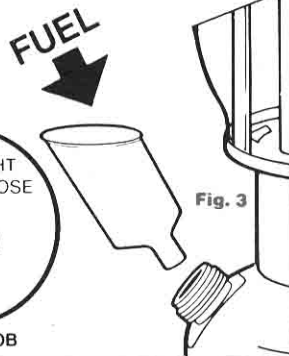

Fig. 3
3. Remove FUEL CAP. Use a Coleman filter funnel and fill with clean, fresh fuel. Lantern must be in a level position. DO NOT TIP. (Fig. 3)